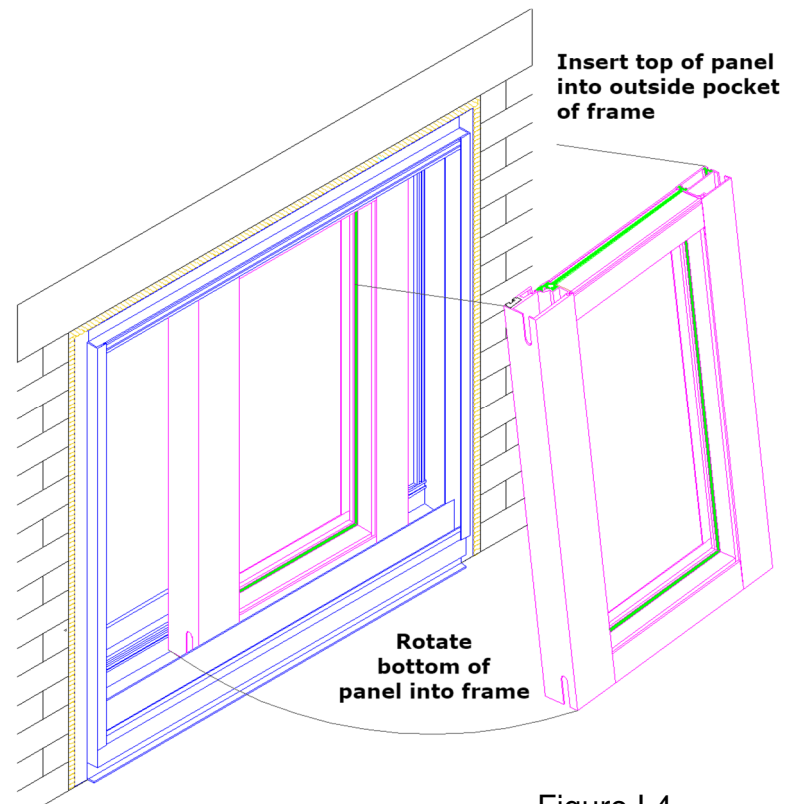

Figure L4
- B. Insert the top of the fixed panel into the outside pocket of the frame head. Swing the bottom of the fixed panel in until it is over the outside pocket of the sill. Set the panel in the outside track of the sill, on the supports (or rollers for Low Sill) (See Figure L4).